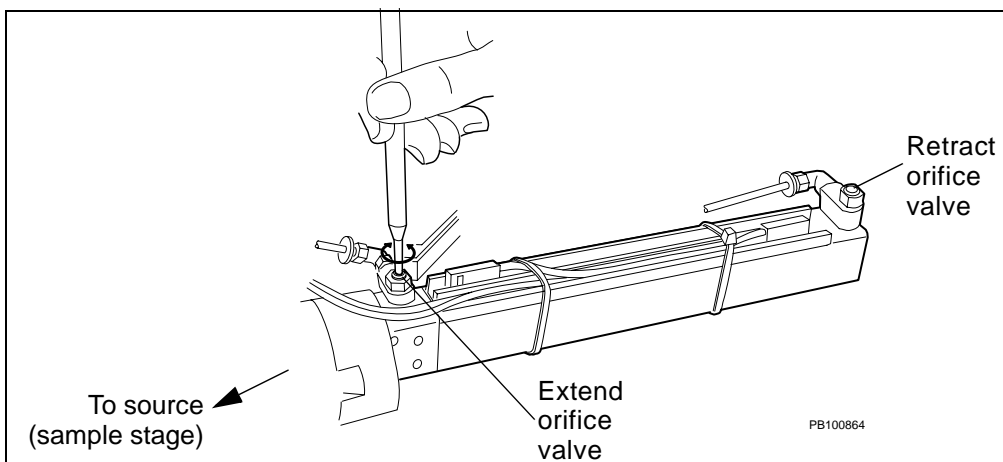

Figure 5-12 Linear Actuator 1 Extend and Retract Valves
2. On the Linear 1 actuator, use the extend orifice valve (the bleed screw closest to the source housing) to slow the extension of the grabber (Figure 5-12 on page 4-25).
The Linear actuators shown in Figure 5-12 on page 4-25 are the newer rectangular shaped actuators. Linear actuators in older systems are cylindrical.